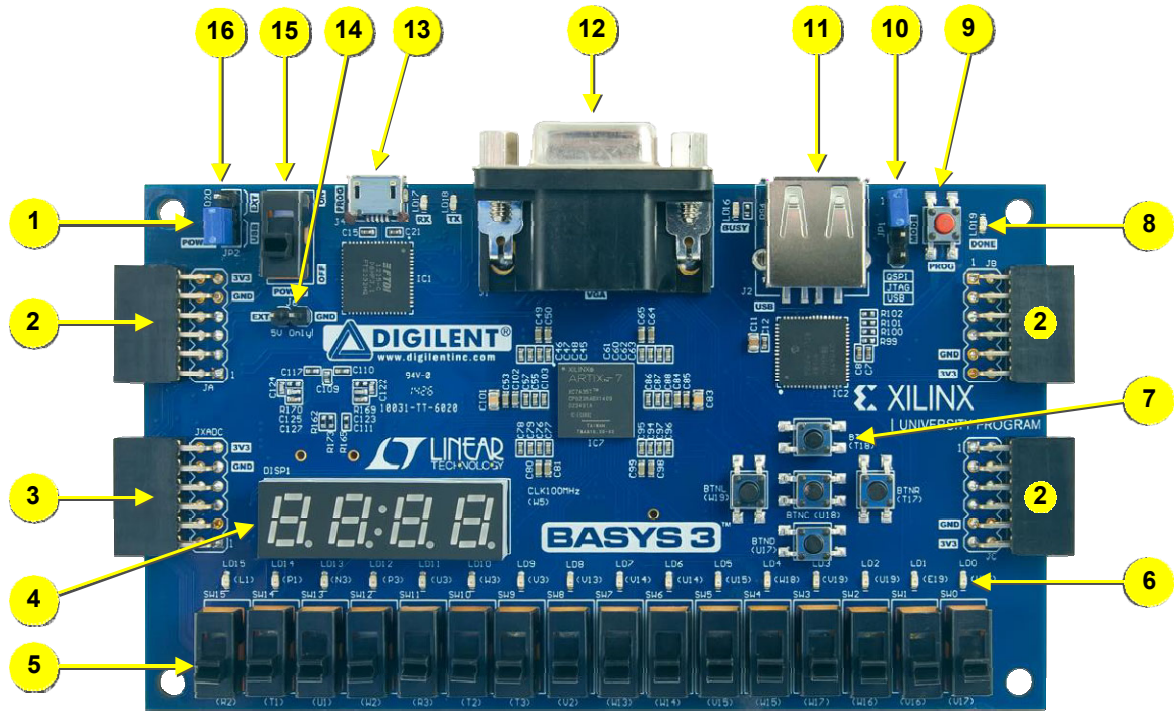

Figure 1. Basys 3 FPGA board with callouts.
Before starting the experiment, we examine the BASYS 3 FPGA board shown in the Figure 1. The BASYS 3 board is a complete, ready-to-use digital circuit development platform based on the latest Artix®-7 Field Programmable Gate Array (FPGA) from Xilinx®.
2. Turn the board's power switch (Number 15 in Fig.1) to the ON position.